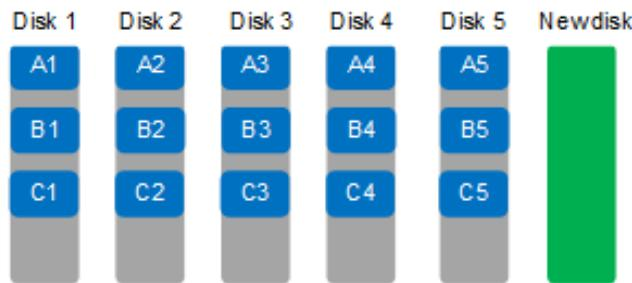

Figure 4. Adding a hard disk to the non-RAID group
- A hard disk is added to the original non-RAID group, as shown in Figure 4.